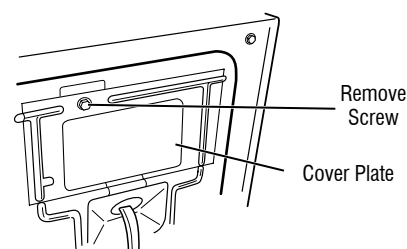

Figure 3 - Remove the cover plate
- Remove the cover plate from the top right corner of the back of the dryer. See Figure 3.
- Check for continuity between the neutral (N) terminal of the plug and J8-3 (white wire) on the ACU.
- Remove the cover plate from the top right corner of the back of the dryer. See figure 3.